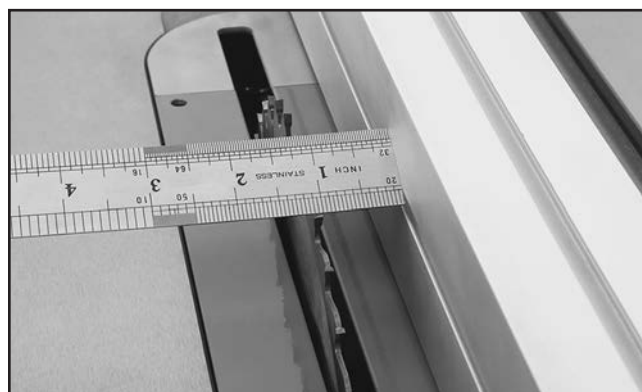

Figure 29. Checking calibration of fence scale.
23. Check fence scale calibration by moving fence to 1" mark on scale and measuring distance from blade (see **Figure 29**).